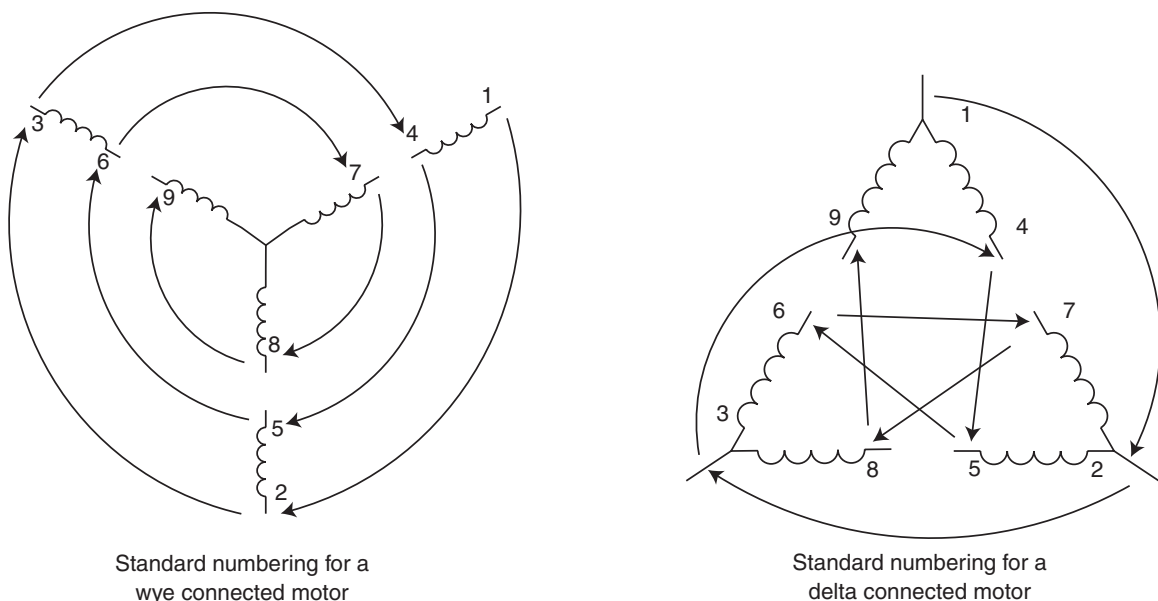

Figure 25-1 Standard numbering for three-phase motors.
There are two basic ways of connecting the stator windings for three-phase dual voltage motors: wye and delta. The standard numbering for stator windings of both wye and delta connected motors is shown in Figure 25-1. Stator windings are numbered by starting at an outer point with #1 and proceeding around in an ever-decreasing spiral. Notice that the opposite end of the winding that begins with #1 is #4. The opposite end of the winding that begins with #2 is #5. These numbers have been standardized and are used by most manufacturers.
An ohmmeter can be used to determine if a 9 lead motor is connected in wye or delta. In a wye connected motor, the opposite ends of leads 7, 8, and 9 are connected together, as shown in Figure 25-1. If an ohmmeter indicates continuity between these three leads, the motor is wye connected. In a delta connected motor, the ohmmeter should indicate continuity between 1, 4, and 9; 2, 5, and 7; and 3, 6, and 8.
5. Compare the continuity readings with the schematic drawing of a 9 lead wye connected motor shown in Figure 25-1. Do the readings confirm the connection diagram?